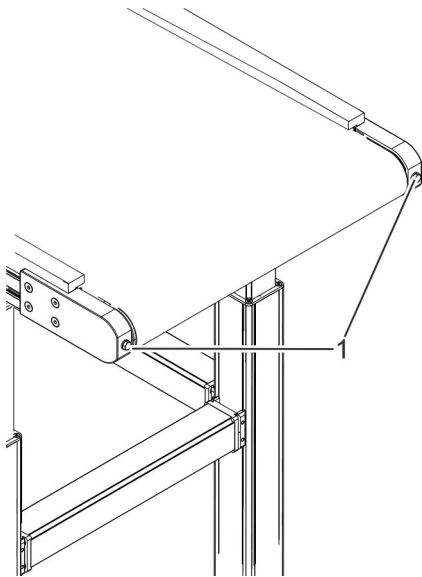

Fig. 71: Loosen the clamping screws
1. ➔ Slacken the conveyor belt by alternately loosening the two tensioning screws (Fig. 71/1).